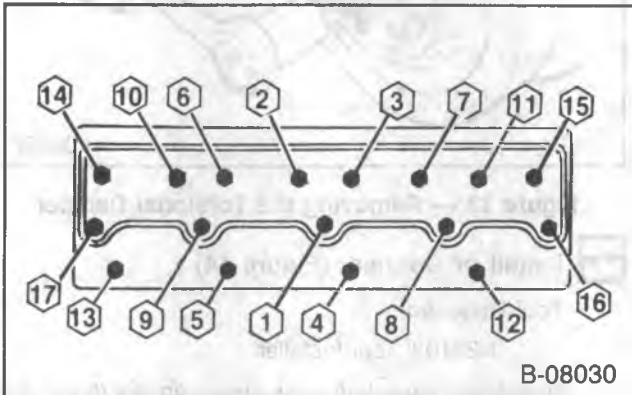

Figure 11 — Head Bolt Tightening Sequence
Install or Connect (Figure 11)
- Using the sequence shown in figure 11, tighten all bolts to 25 N·m (20 ft. lbs.).
- Using the sequence shown in figure 11, tighten all bolts to 25 N•m (20 ft. lbs.).